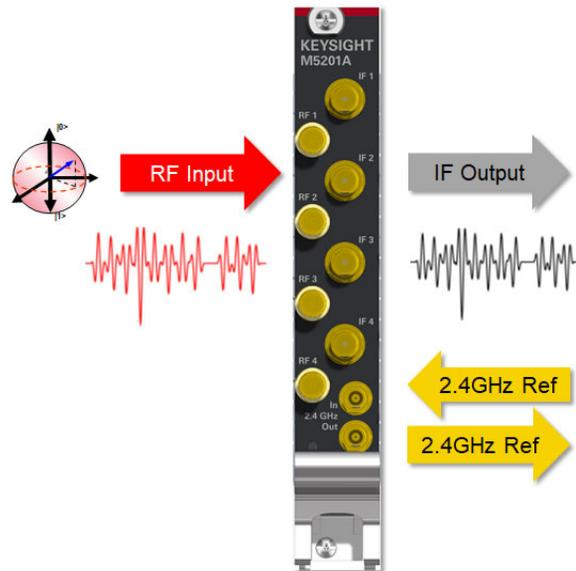

Figure 2 Functional depiction of the M5201A module
The input and output flow in the M5201A PXIe Downconverters is shown in Figure 2. It has a low-IF downconverter functionality with four pairs of RF/IF channels and a single, shared, internal local oscillator (LO). The LO is